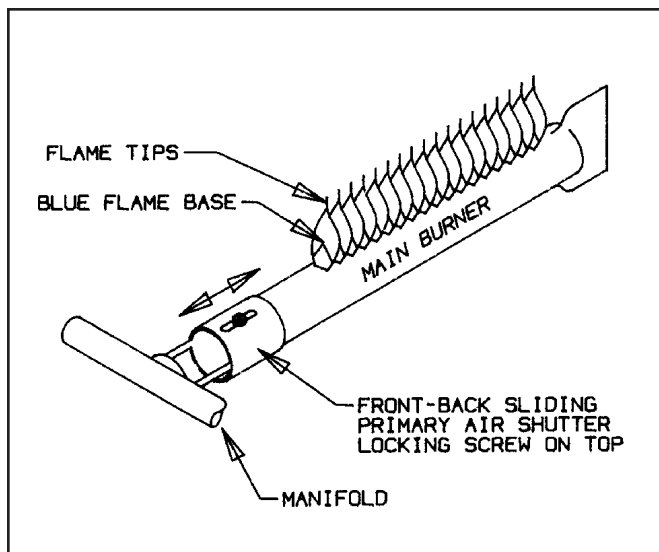

Figure 18.
3. For one burner, close the air shutter until some of its flame jet tips turn yellow-white, indicating insufficient primary air. Then open shutter until whitish tips disappear completely. Set all burner shutters to the same opening. Observe to make sure that no yellow-white tips appear over any portion of the flame. Small yellow tips at the pilot are permitted (see Figure 18).